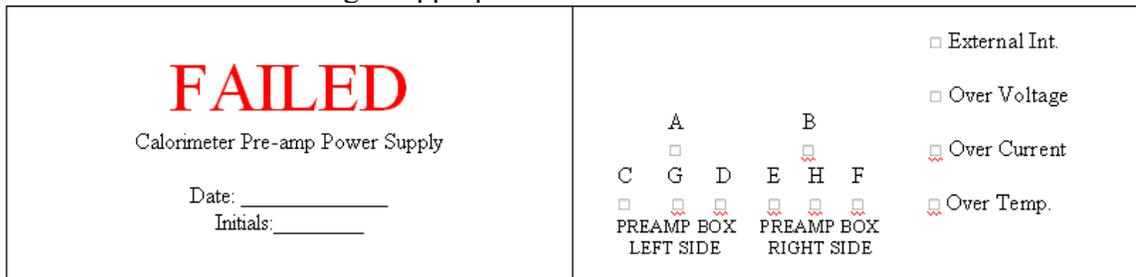

Figure 3. Front and rear sides of Failure Indication Tag
- Initial and date the front side of the Failure Indication Tag (see example in Figure 3). Examine the Status Indicators on the Front Panel of the Power Supply to be replaced. Red status indicators indicate a fault. Check the appropriate boxes on the back side of the Failure Indication Tag to record the fault condition. Additional notes regarding the problems associated with the Power Supply should also be added to the Tag as appropriate.